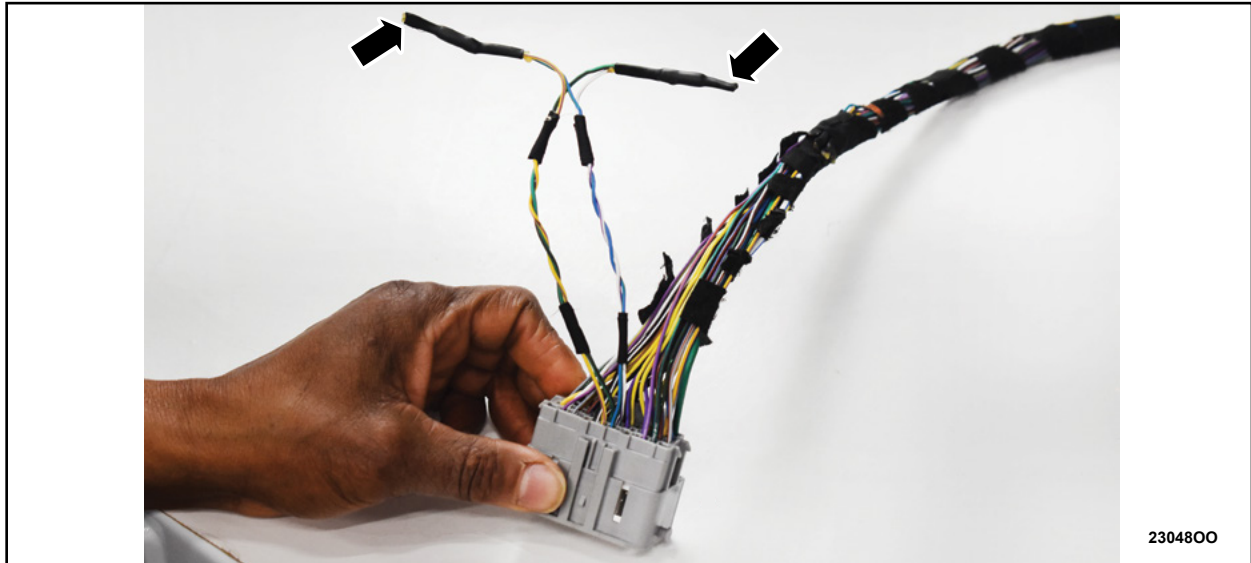

FIGURE 17
17. Install a dual wall heat shrink tube over both butt connectors and heat tube and pinch off the ends as shown in Figure 17.